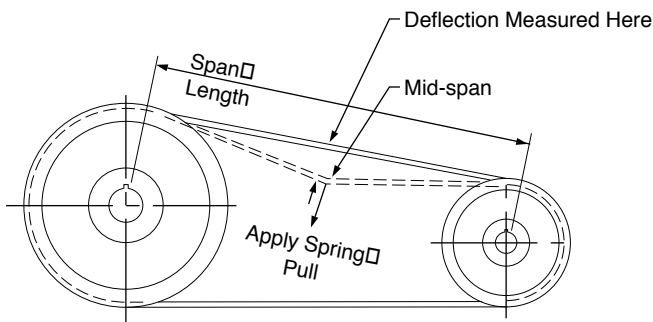

FIGURE 82. Correct Tension Check for V-belt Drives
- Establishing correct tension in single or multiple V-belt drives requires the use of a small spring scale, applied at the center of the belt span (Figure 82). Apply spring pressure to produce the belt deflections shown in Table 3. Then read the scale and tighten or loosen as needed.